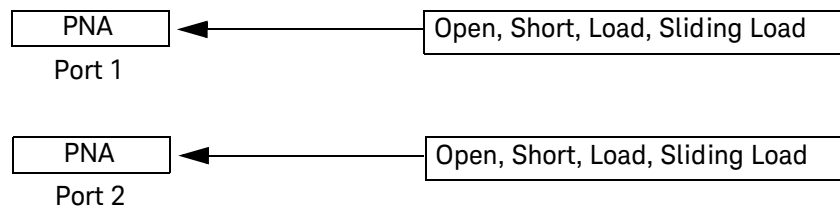

Figure 2-44 System calibration setup
- 1 Set up the equipment for system calibration according to Figure 2-44.